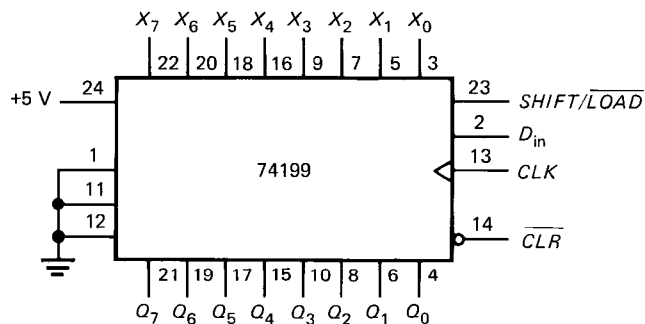

Fig. 8-30
- 8-5. The clock frequency is 2 MHz. How long will it take to serially load the shift register of Fig. 8-30?
- 8-6. In Fig. 8-30, $Q = 0001\ 0110$. If $\overline{SHIFT/LOAD}$ is high and D_{in} is high, what does Q equal after three clock pulses?
- 8-4. A 74199 is an 8-bit shift-left register with a single control signal, as shown in Fig. 8-30. When $\overline{SHIFT/LOAD}$ is low, the circuit loads the X word on the next positive clock edge. When $\overline{SHIFT/LOAD}$ is high, the register shifts the bits to the left.